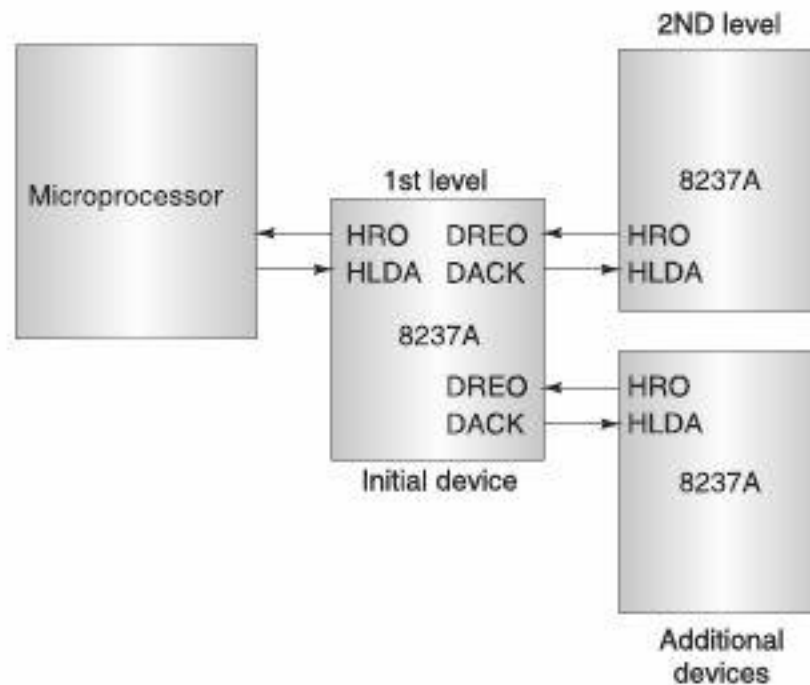

Fig. 5.55 Cascaded 8237As.
- (a) **Single Transfer Mode:** In Single Transfer Mode, the device is programmed to make one transfer only. The word count will be decremented and the address decremented or incremented following each transfer. When the word count “rolls over” from zero to FFFFH, a Terminal Count (TC) will cause an auto-initialize if the channel has been programmed to do so. DREQ must be held active until DACK becomes active in order to be recognized. If DREQ is held active throughout the single transfer, HRQ will go inactive and release the bus to the system. It will again go active and, upon receipt of a new HLDA, another single transfer will be performed. In 8080A, 8085AH, 8088, or 8086 system, this will ensure one full machine cycle execution between DMA transfers. Details of timing between the 8237A and other bus control protocols will depend upon the characteristics of the microprocessor involved.
- (d) **Cascade Mode:** This mode is used to cascade more than one 8237A together for simple system expansion. The HRQ and HLDA signals from the additional 8237A are connected to the DREQ and DACK signals of a channel of the initial 8237A. This allows the DMA requests of the additional device to propagate through the priority network circuitry of the preceding device. The priority chain is preserved and the new device must wait for its turn to acknowledge requests. Since the cascade channel of the initial 8237A is used only for prioritizing the additional device, it does not output any address or control signals of its own. These could conflict with the outputs of the active channel in the added device. The 8237A will respond to DREQ and DACK but all other outputs except HRQ will be disabled. The ready input is ignored. Figure 5.55 shows two additional devices cascaded into an initial device using two of the previous channels. This forms a two-level DMA system. More 8237A's could be added at the second level by using the remaining channels of the first level. Additional devices can also be added by cascading into the channels of the second level device, forming a third level.